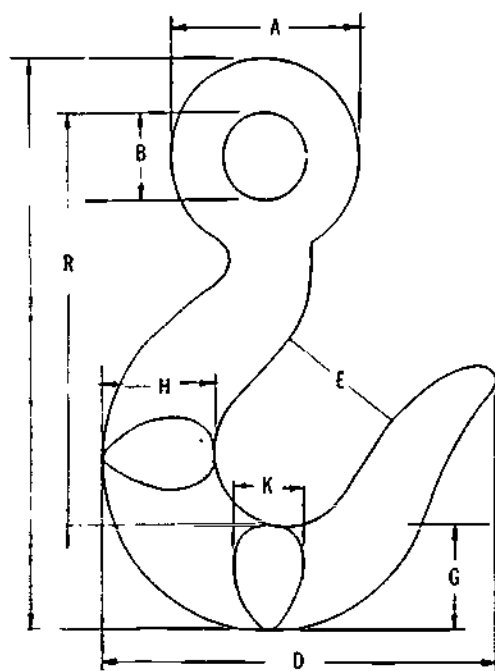

Figure 7-79. Standard Eye Hook
- 1 **A Standard Eye Hook** is illustrated in Figure 7-79. The different dimensions are labelled for reference to the dimension and load charts to follow.